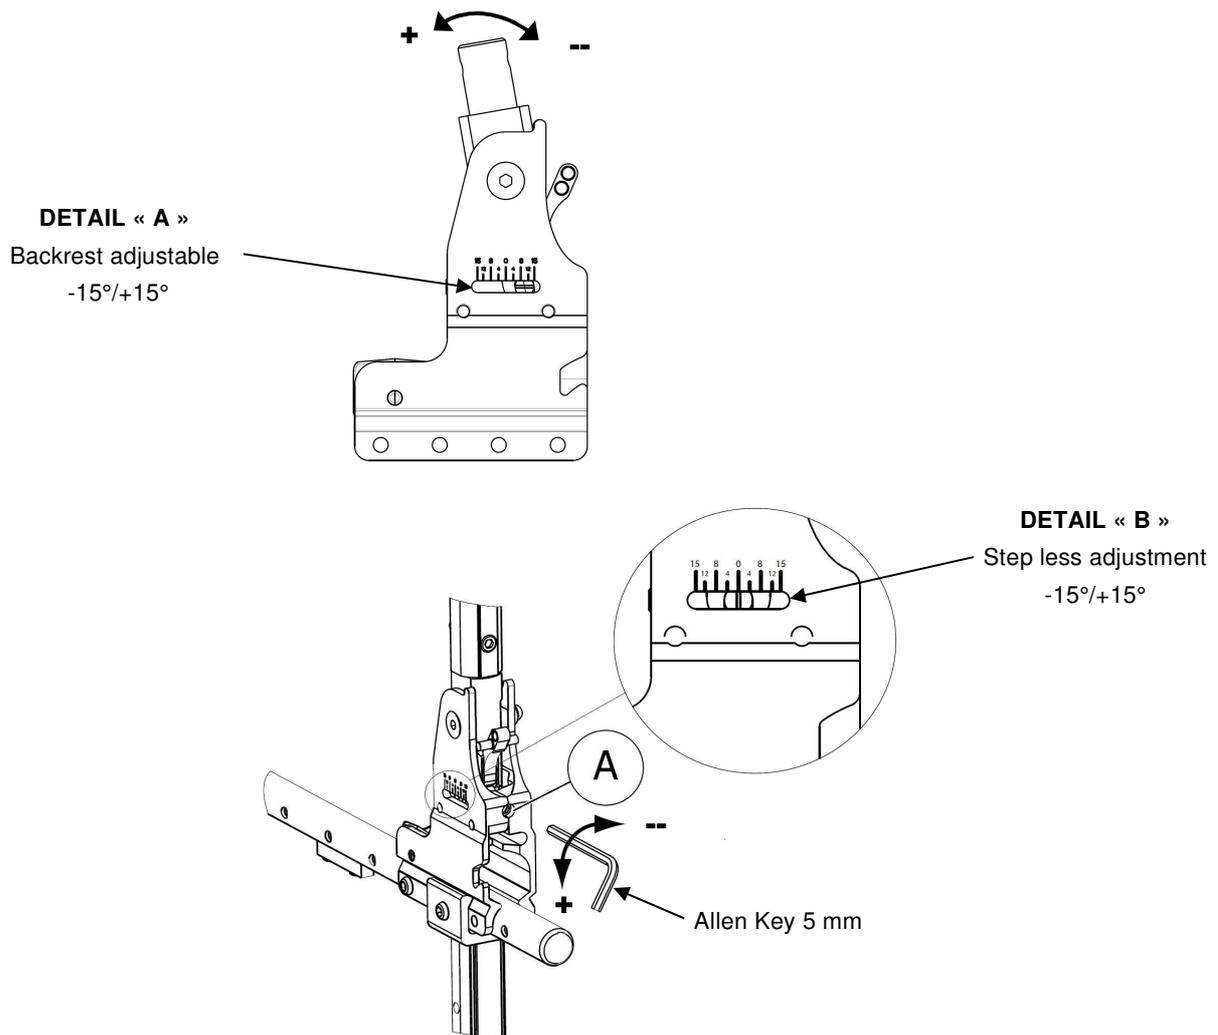

FIGURE 4.6 Adjusting the Angle Adjustable Backrest
NOTE: For this procedure, refer to FIGURE 4.6, next page.
2. Turn Allen key (5 mm) clockwise to obtain a negative angle.
3. Alternatively, turn Allen key (5 mm) under clockwise to obtain a positive angle.
4. Ensure both adjustment to the desired angle is equal on each side of the Back Cane Bracket. Refer to Detail "B" of FIGURE 4.6